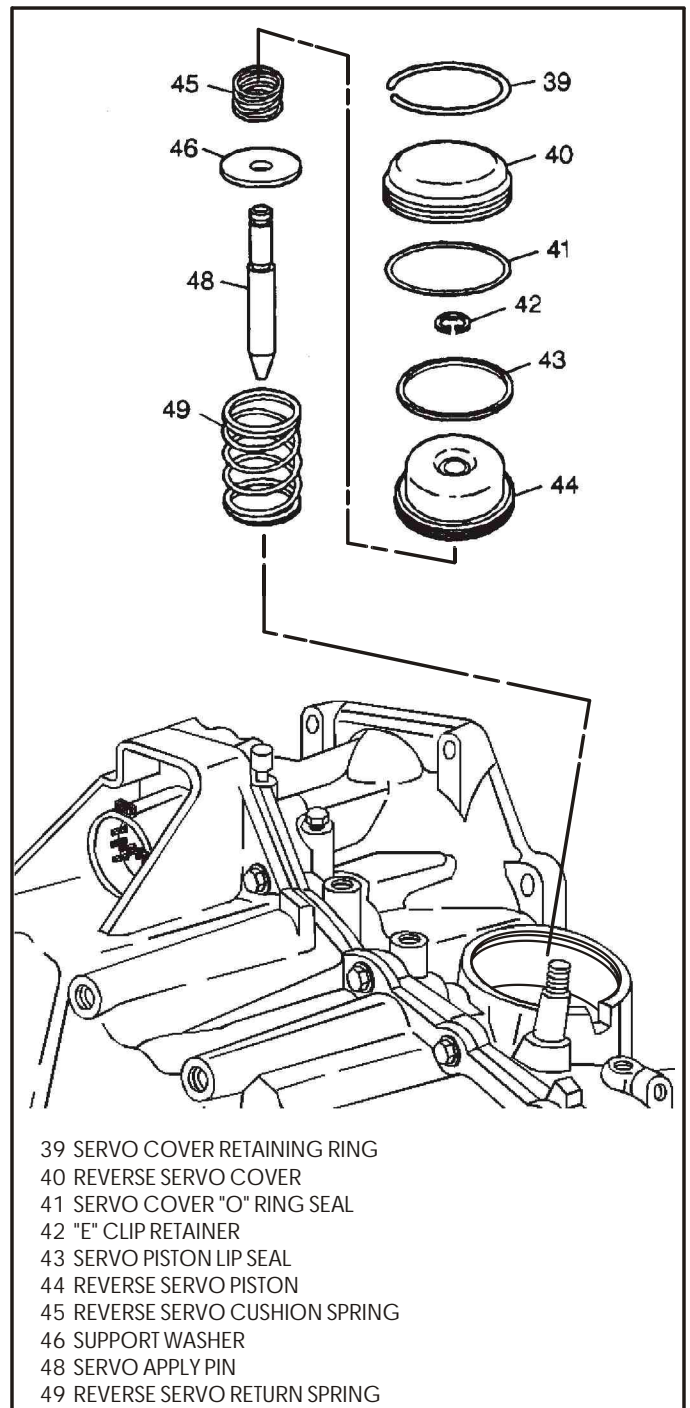

Figure 37
11. Remove the Reverse Servo Assembly, and then disassemble, as shown in Figure 37.